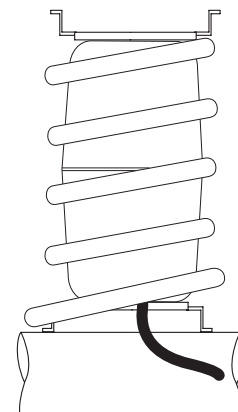

Figure 9
14. Raise axle or lower body until air cylinders lightly touch upper and lower spring seat. (Figure 9)
12. Raise axle or lower body until air cylinders lightly touch upper and lower spring seat.(Figure 9)